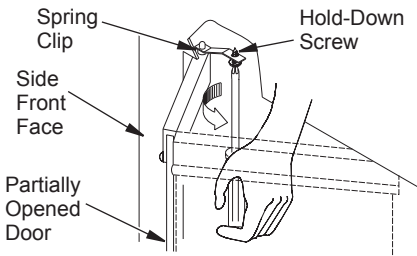

Figure 34 - Adjusting Glass Doors
7. To adjust the doors, slide them partially open. Using a screwdriver, loosen the hold-down screws in the spring clip (see Figure 34) and pivot plate.